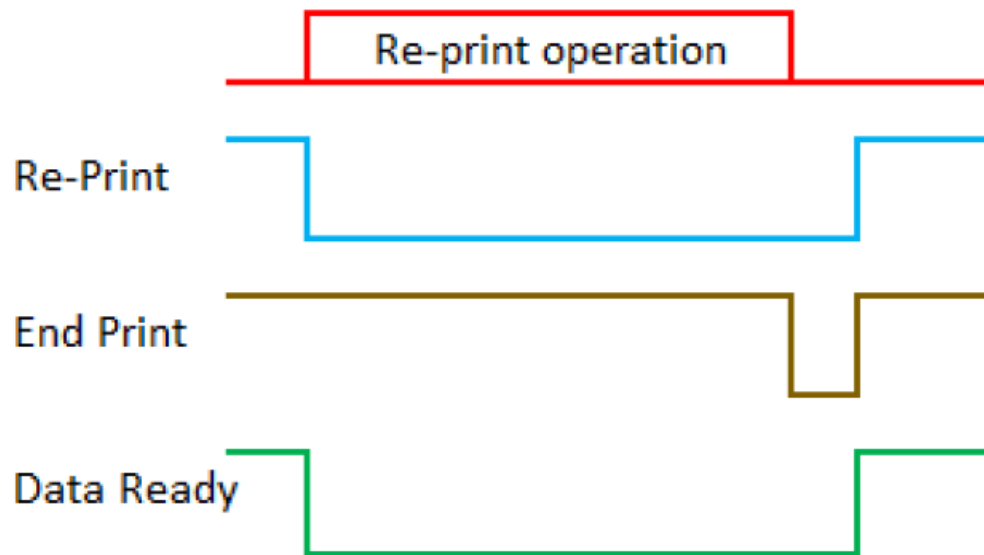

Figure 7
- The timing chart is shown in Figure 7.